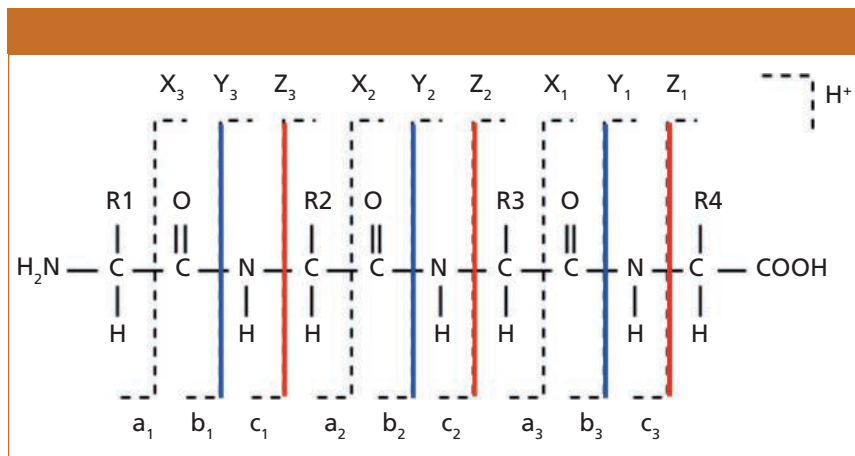

Figure 2: Electron-transfer dissociation (ETD, red) and collision-induced dissociation (CID, blue) fragmentation in mass spectrometry.
hydrophobicity and size of the sample molecules should be considered as well as their aggregation tendency. Samples should be treated accordingly with detergents or denaturants. In peptide analysis by LC-MS, the size and hydrophobic or hydrophilic characteristics of the peptides should be considered. If the peptides are too small or hydrophilic then they are not retained. If the peptides are too big or hydrophobic then they are not recovered properly. To avoid these size-related issues, one option is to implement a multienzyme approach that provides suitable sized peptides for the analysis, keeping in mind that peptide sizes between 1000 and 3000 Da work well for most LC-MS systems. On-line LC-MS, for the analysis of larger peptides, may need a combination of collision-induced dissociation (CID) and electron-transfer dissociation (ETD). CID of an isolated charge-reduced species derived from ETD is an effective approach to determine phosphorylation sites and glycosylation modifications as shown in Figure 2 (12). To further analyze glycosylation modifications, hydrophilic interaction liquid chromatography (HILIC) stationary phases have been introduced using amide, diol, amine, aminopropyl, and zwitterionic (ZIC-HILIC) phases (13). However, normal-phase silica-based columns are still being used for glycopeptide or glycan analysis. Capillary electrophoresis (as well as CE-MS) is another good option to analyze glycosylated proteins or peptides (14). Rapid analysis of glycosylation, especially for immunoglobulins, is also possible by a novel microchip-based LC-MS approach that utilizes an integrated microfluidics-based sample preparation system before MS analysis (15). The built-in PNGase F enzyme reactor cuts off the IgG glycans, and the resulting glycosylamines are separated on a porous graphitized carbon column followed by detection in the connected MS unit.